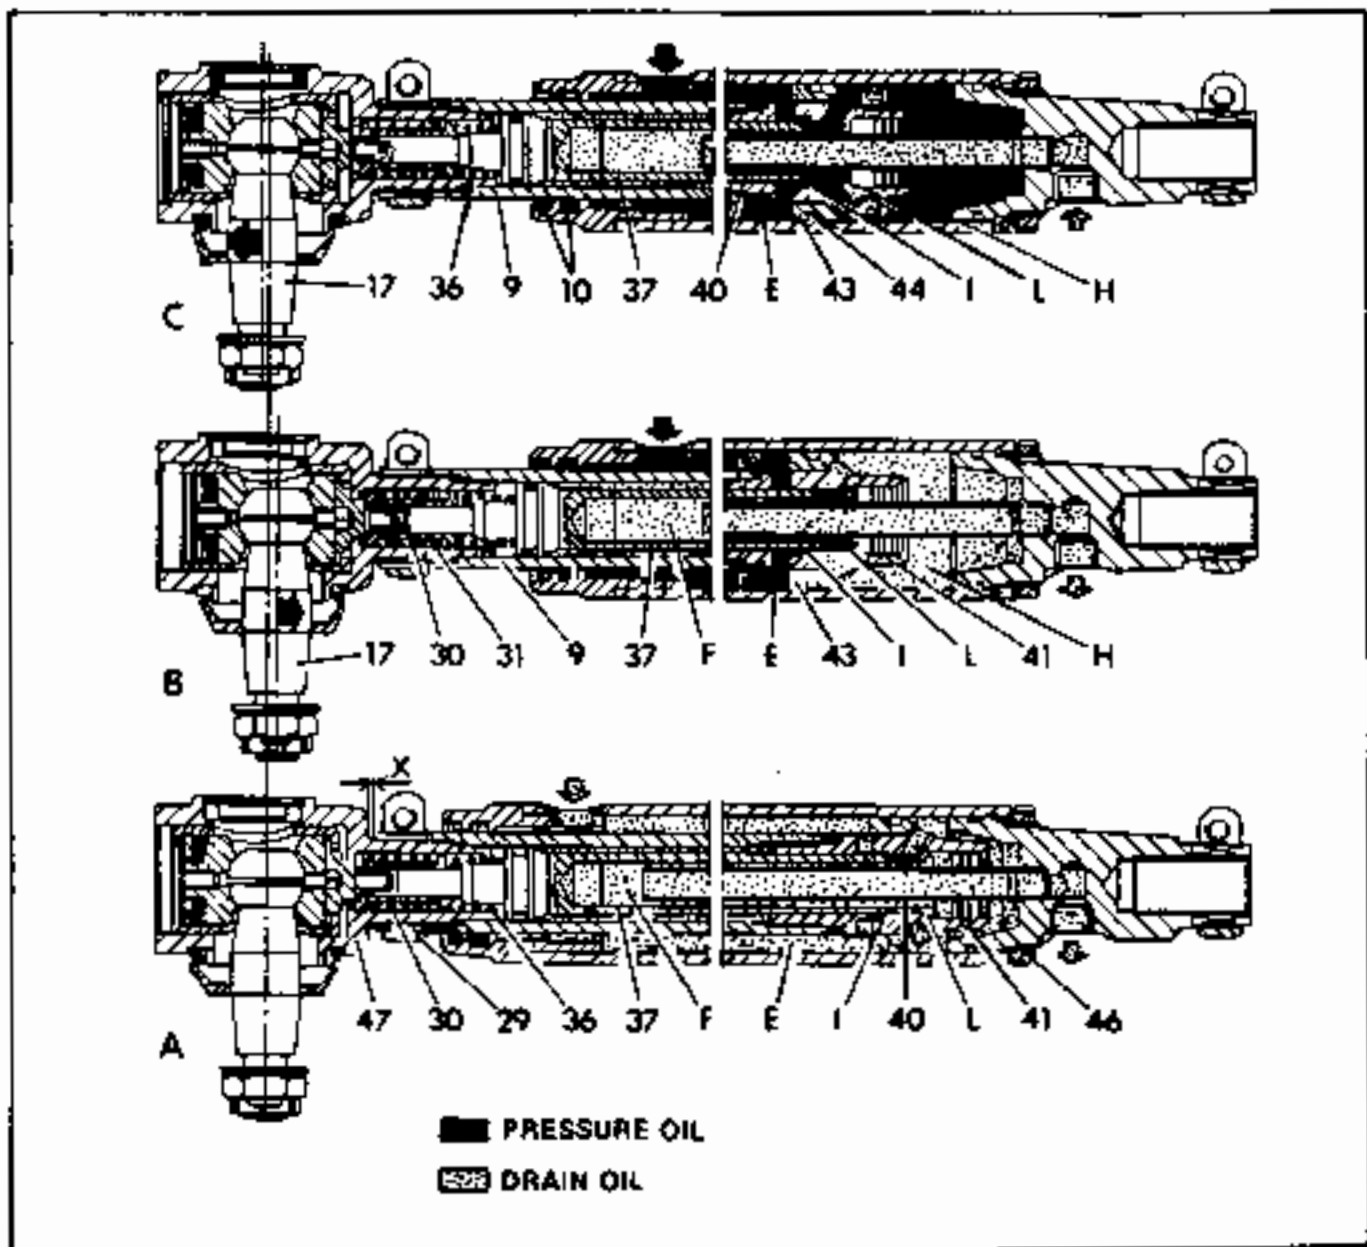

FIG. C.1/2 WORKING DIAGRAMS OF POWER STEERING CYLINDER
FRONT END OF CYLINDER (MAJOR DISASSEMBLY)(FIG. C.1/3)
1. Remove attaching brackets, tubing and connections. Drain residual oil by tilting. Straighten tabs, take out bolts. Remove cylinder head (20) and retaining ring (19). **CAUTION**—Spring tension is released when retaining ring is removed. Be cautious of spring loaded parts.
2. Remove front ball stud cap (23) and take out Belleville spring discs (18). Take retainer, cap and "O" ring from round hole and lift out cylinder control ball stud (17). Release control head clamp (29) and screw out control valve assembly.
Make sure oil inlet connection is completely removed from side of cylinder. Straighten tab of safety plate (34) and screw off cylinder front end lock nut (33). Tap cylinder front end (38) inward for clearance, and with small punch through 1/8 inch hole found on rim of cylinder, remove retaining ring (13). Grasp cylinder rod and twist, pulling outward to remove it and cylinder front end (38). Should extra resistance be encountered when piston (43) butts against inside of cylinder front end (38), bolt up in clamp (29) and tap gently against it with soft metal hammer while twisting and drawing on piston rod. Entire piston and rod assembly will slide out front of cylinder. Loosen and remove clamp (29, Fig. C.1/3). Slide cylinder front end (38) off rod (9).
Straighten tab of safety plate (3, Fig. C.1/3) and back off cylinder head lock nut. Push minor pressure chamber (1) inward to clear, and with
Take out inside ball stud cap (23, Fig. C.1/3) to allow access to retaining nut holding reaction piston abutment (24). Grip control valve rod in vise and with appropriate tool, or carefully with small snub-nosed punch, remove retaining nut.
Straighten tab of safety plate (8, Fig. C.1/3). Clamp cylinder rod (9) in well-padded vise, or better, enlist aid of assistant to hold rod on a smooth, clean wood surface. Use a punch against spanner notch - strike sharply to loosen. Unscrew valve body (41) with piston (43) from rod (9). Slide off safety plate (8) and washer (42).
Through small hole in rim of body, release retainer (31, Fig. C.1/3), take out mud-scraper (32) and "O" ring (15). Remove "O" ring (12). Discard all old rubber parts. Wash body (38) in solvent.
With clamp (29, Fig. C.1/3) removed, slide front end body (38) onto cylinder rod assembly with threaded end away from piston. Install piston ring (7).
Install inner ball stud cap (23, Fig. C.1/3). Turn ball stud seat so round holes align, slotted holes align, and insert ball stud (17), thread-end first, through round hole. Push in outer ball stud cap (23) and Belleville discs (18) (maintaining alternate cover-concave order) and washer.
Extend cylinder rod (9, Fig. C.1/3) to limit. Loosen clamp (29). Insert valve rod and screw head body